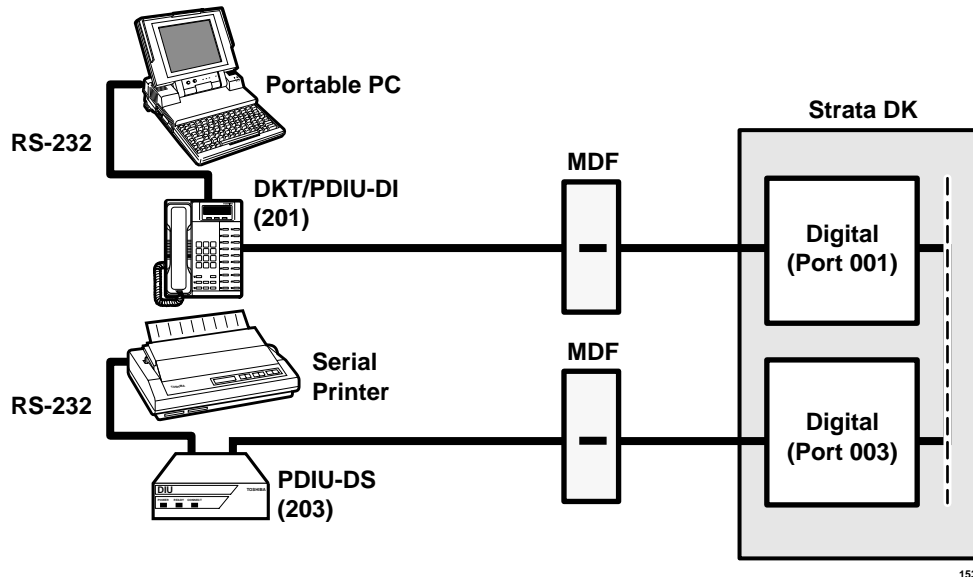

Figure 10-36 DK PC to Printer Test Call Using Manual Dialing
**Note** See Figure 10-36 for additional information.
- ♦ Program 39: Port 001. **Data Call** (456) and **Data Release** (454) buttons should be provided.
CONNECT on the PDIU-DS lights. The connection between the PC and the printer is completed, as shown in Figure 10-36. (PDIU-DS 203 is in the communication mode).